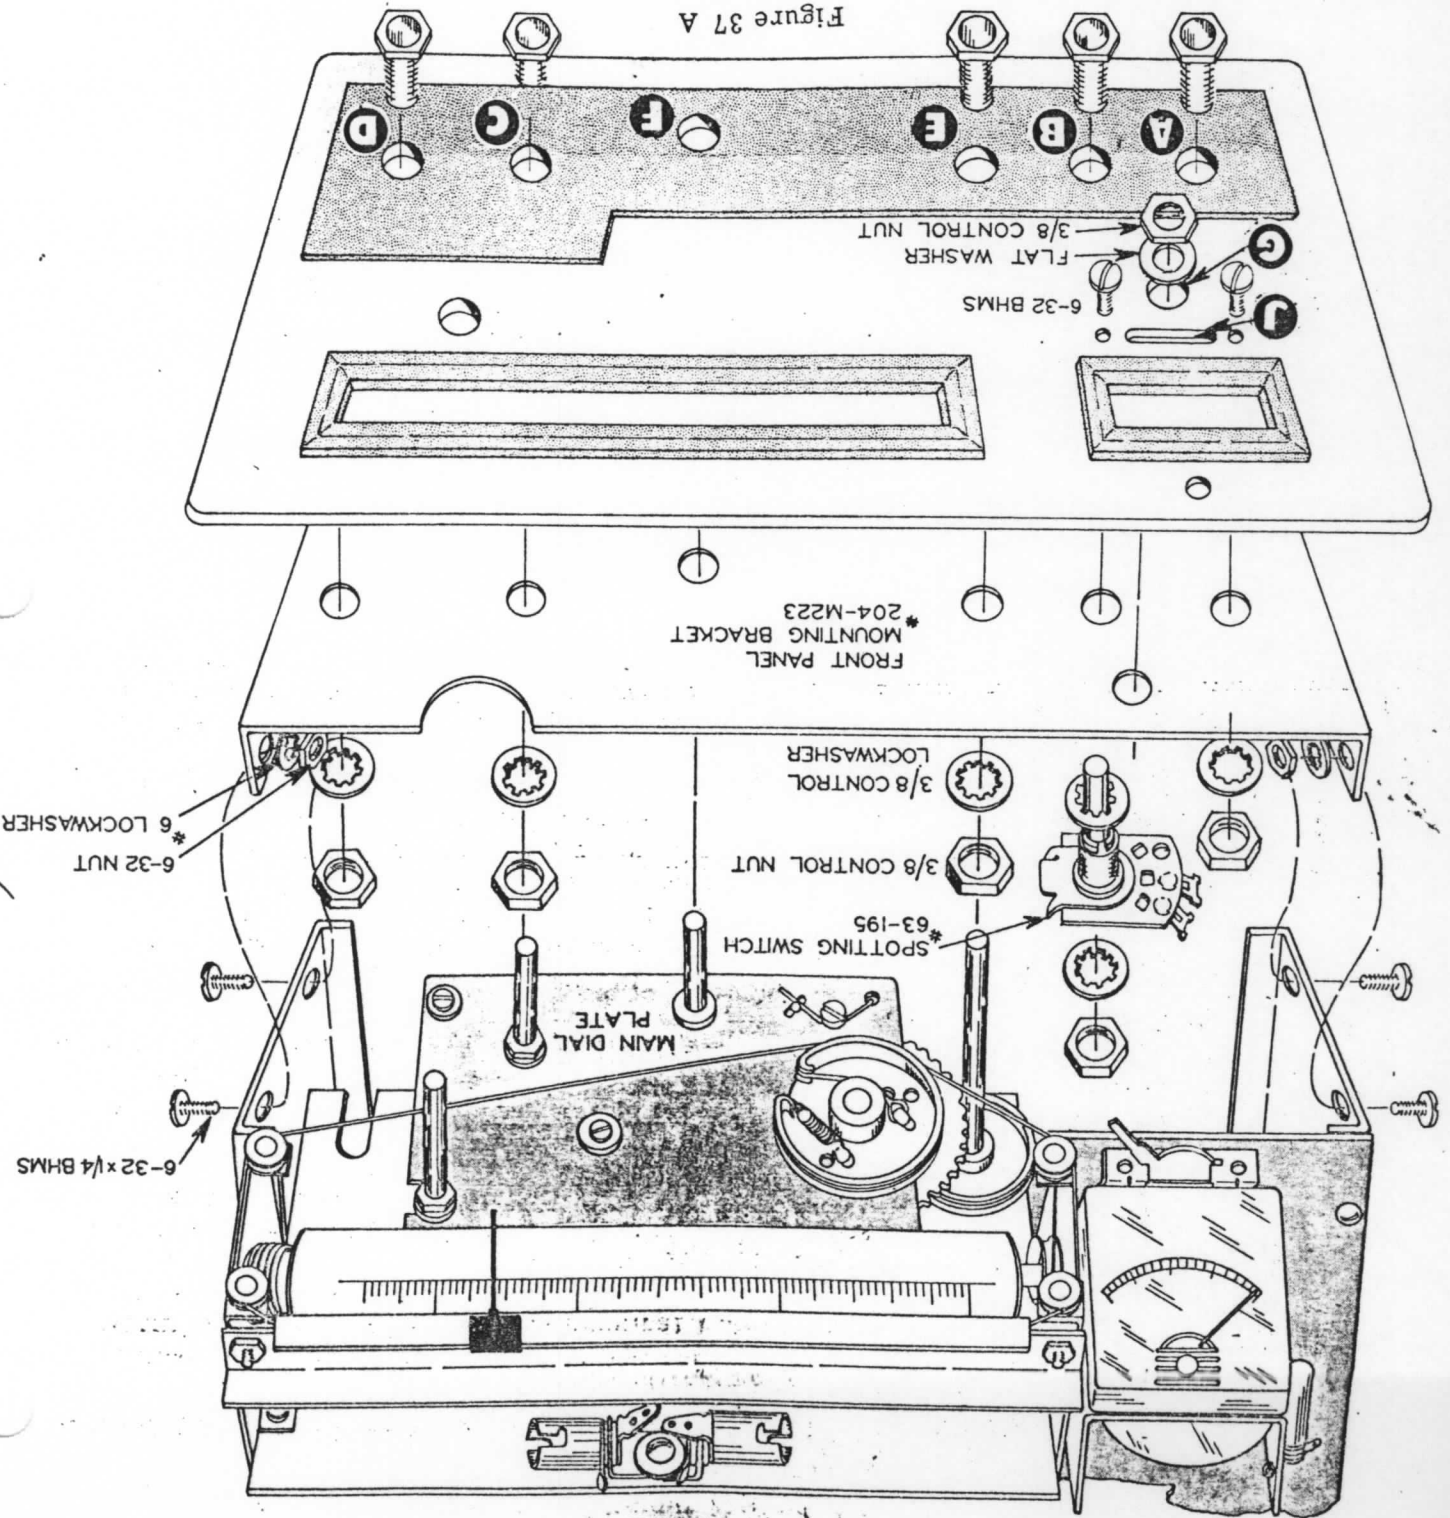

Figure 39
- Refer to Figures 39 and 40 for the following steps:
- () Referring to Figure 39, slide the final tuning shaft (#453-72) through bushing A (the end with the E ring groove located 15/16" from the end first) then through the remaining bushing in the rear shield plate. Secure the shaft on the threaded side of bushing A by placing an E ring on the capacitor shaft. Insert another E ring on this shaft in front of the rear shield plate bushing.